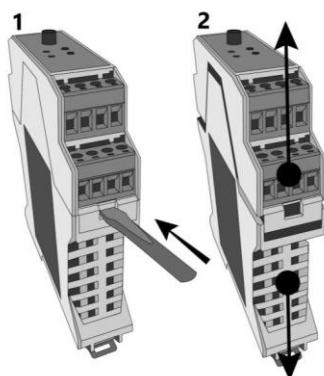

Fig. 4. Take off the case.
- Open the controller case as shown in the Fig. 4: